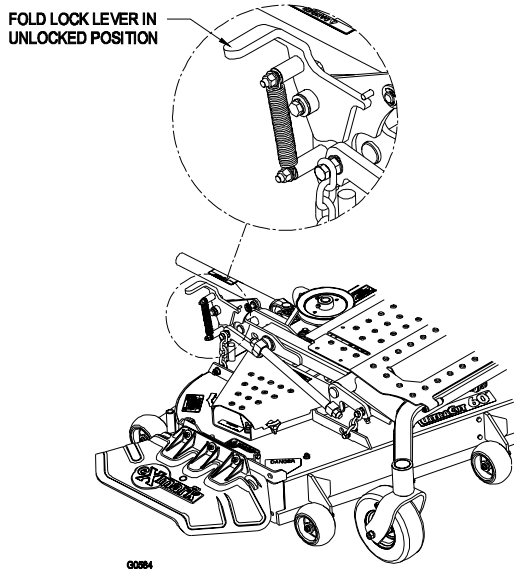

FIGURE 1
(See Figure 1).
- c) Rotate the fold lock levers, located on each side of the deck, to the unlocked position. (See Figure 1)